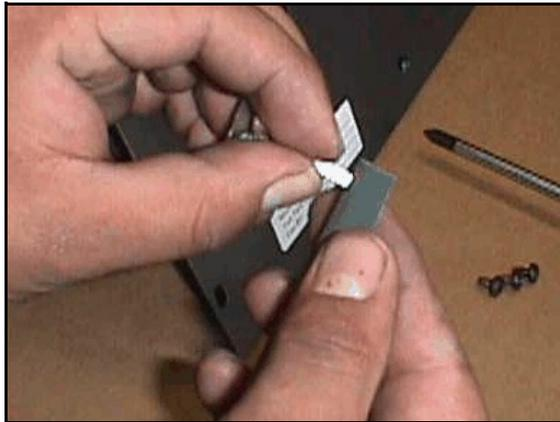
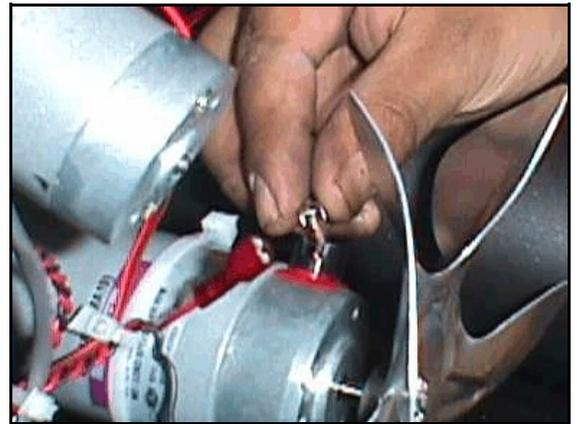

Figure 6
Figure 5
**Removing the brush caps:** Using a small flat blade screw driver remove one brush cap at a time. Care should be taken as the brush holder has a spring that forces to the brush onto the armature. This spring may cause the cap to pop out unless held firmly (**Figure 5**).
**Removing and dressing the brush:** Remove the brush from the holder by lifting up and sliding the brush and spring clear (**Figure 5**). Once the brush is clear hold the brush base and carefully take a couple of swipes across the brush face with fine sand paper (**Figure 6**).